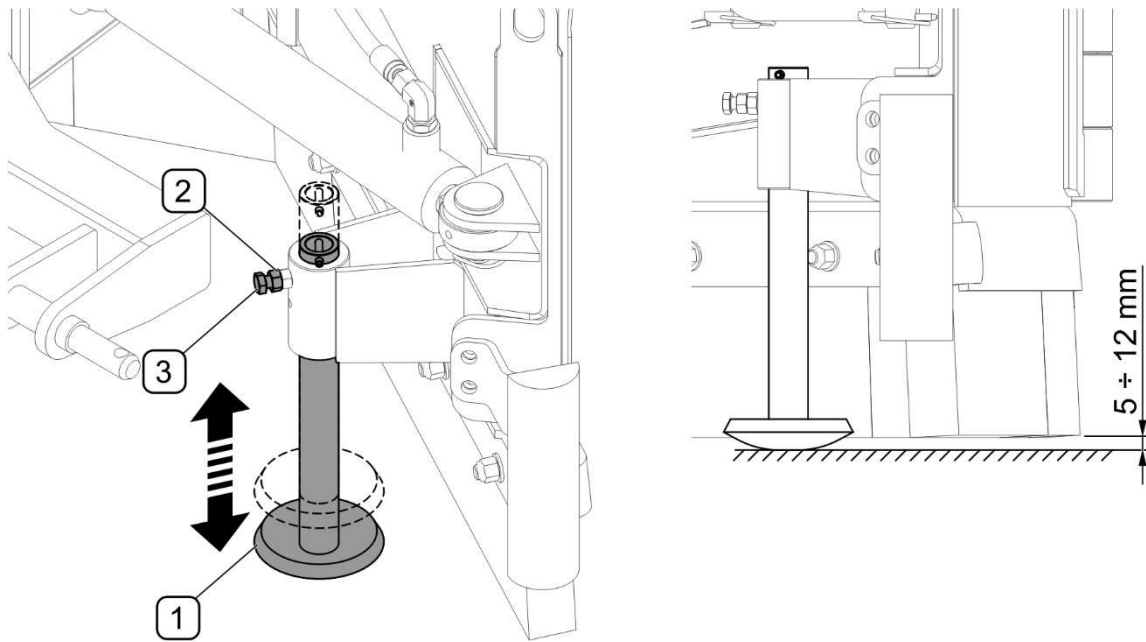

FIGURE 4.5 Working height adjustment in the snowploughs equipped with slides
In the snowploughs equipped with slides (FIGURE 4.5), the working height adjustment is performed by unlocking nut (2) and bolt (3) and proper extension or withdrawal of slide (1) in guide. When the height is set, secure the slide by tightening bolt (3) and nut (2). Adjustment of the left slide and the right slide is carried out in the same way. Slides of the left and right mouldboard should be put forward at the same height. The recommended distance of the collecting strips from the cleared surface is 5 ÷ 12 mm.